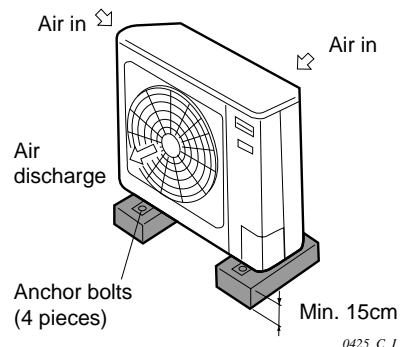

Fig. 2-3
- use anchor bolts or equal to bolt down the unit, reducing vibration and noise. (Fig. 2-3)